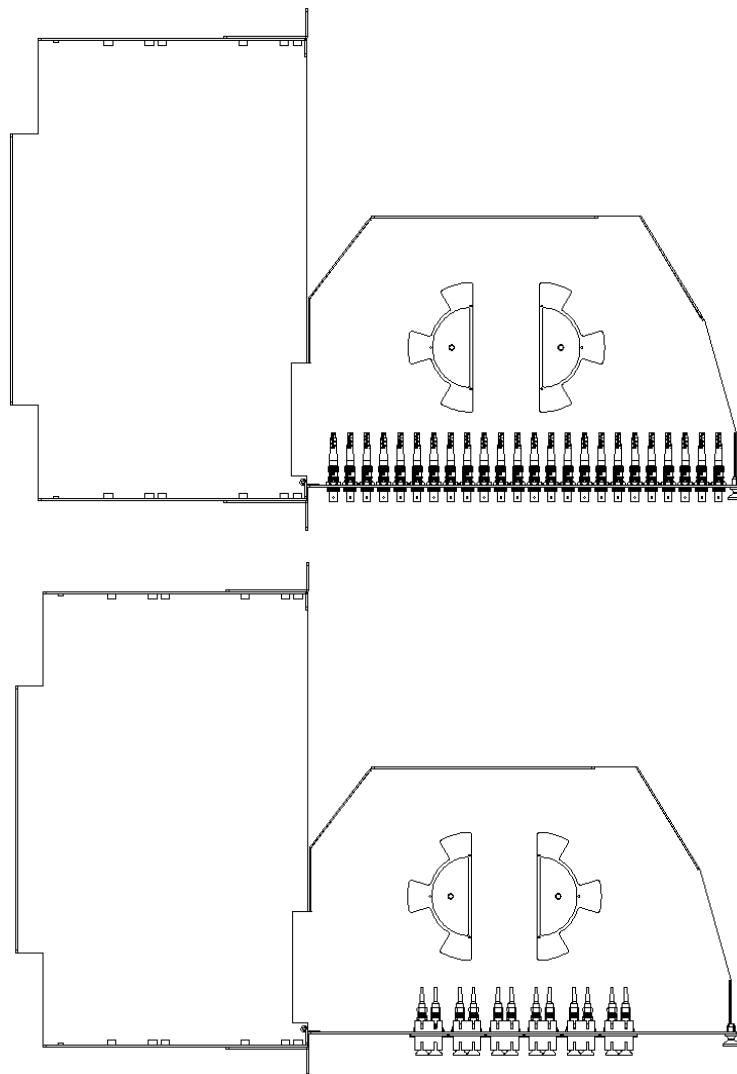

FIGURE 3-1: RACKMOUNT FIBER PATCH PANEL WITH TRAY OPEN
4. Install the fiber cables in the preloaded adapters on the pull-out tray. See Figure 3-1.